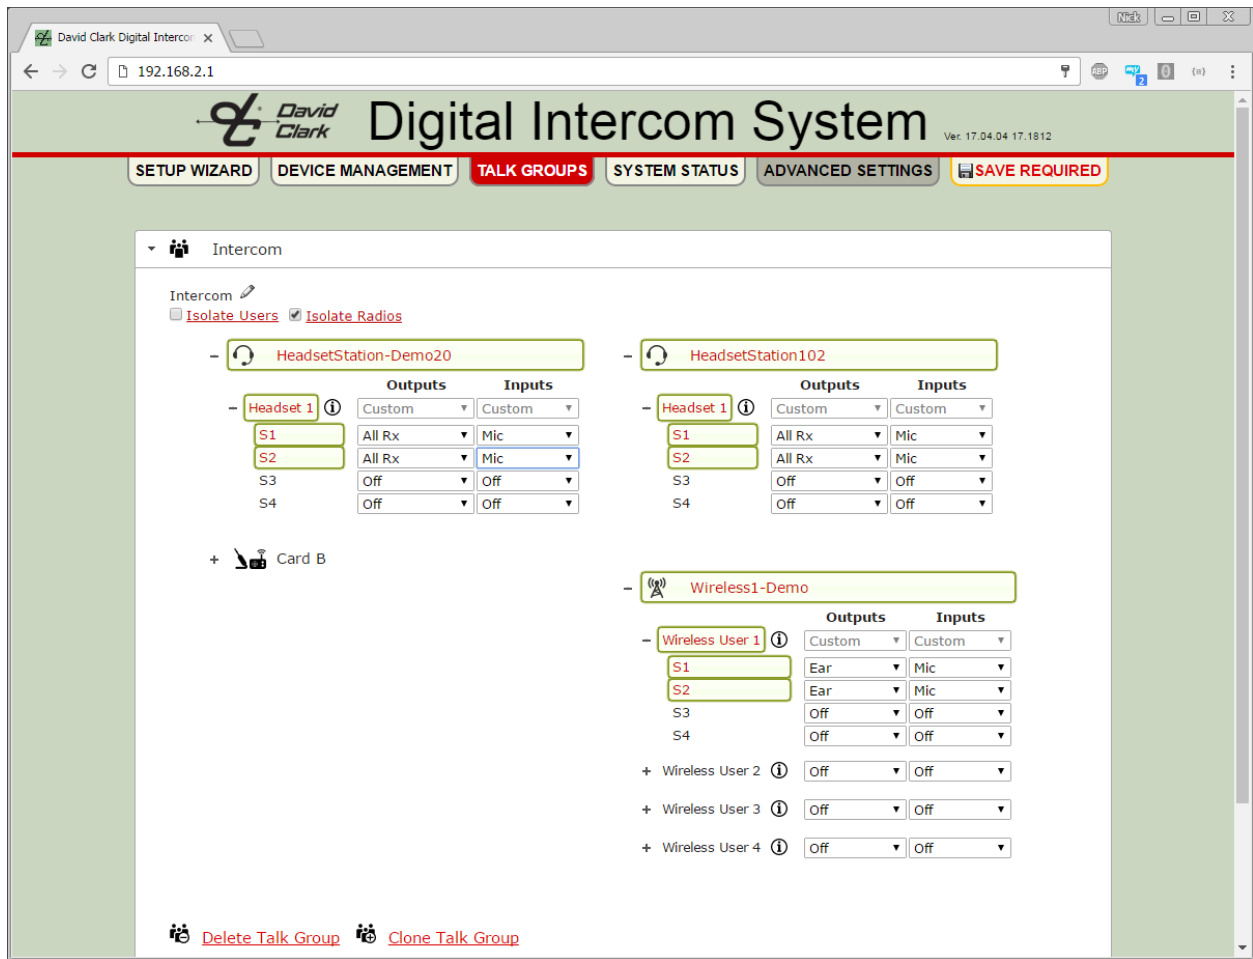

Figure 8.21 Talk Group Example 4 - Intercom
21. See **Figures 8.21, 8.22, and 8.23**.